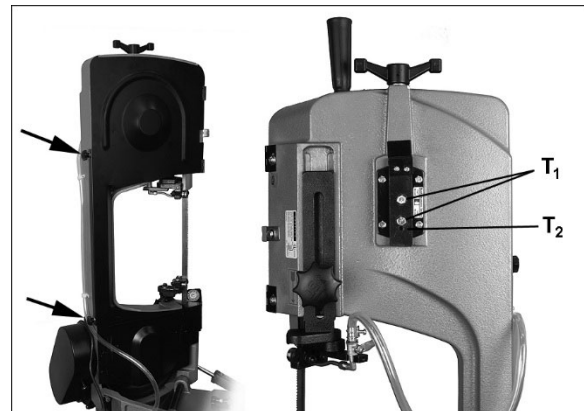

Figure 8-10: blade tracking adjustment
3. Open rear guard by removing two knobs (see Figure 8-10).
2. Open rear guard by removing 2 knobs (see Figure 8-10). Observe position of blade on wheel. If blade is not adjacent to wheel flange, first adjust blade tracking according to *sect. 8.9 Blade tracking*.
6. If blade is not tracking properly, loosen bolts (T₁, Figure 8-10) with 12mm wrench.